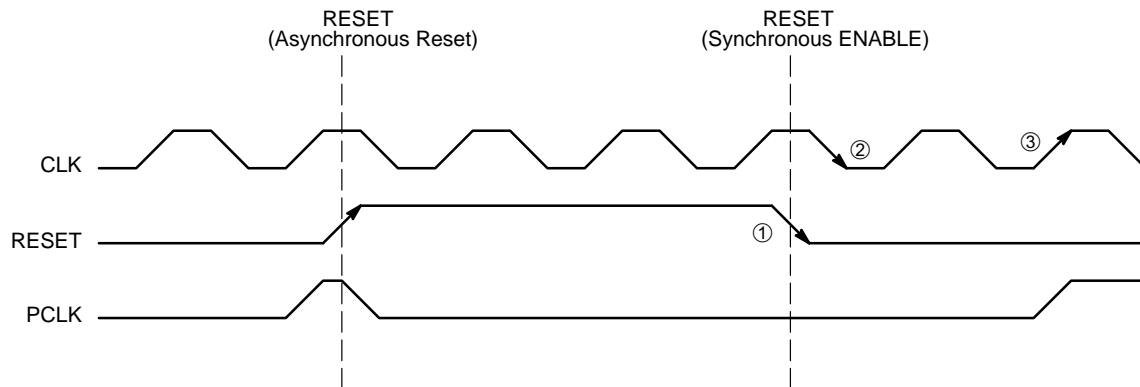

Figure 6. Reset Timing Diagram
Upon power-up, the internal flip-flops will attain a random state. To synchronize multiple flip-flops in the device, the Reset (pin 1) must be asserted. The reset pin will disable the internal clock signal irrespective of the CKEN state (CKEN disables the internal clock circuitry). The device will grab the first stream of data after the falling edge of RESET^①, followed by the falling edge of CLK^②, on second rising edge of CLK^③ in either CKSEL modes. (See Figure 6)